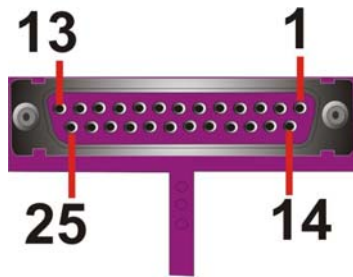

Figure 3-21 Parallel Port Connector Pinout Locations
- CN Pinouts: See **Figure 3-21** and **Table 3-22**